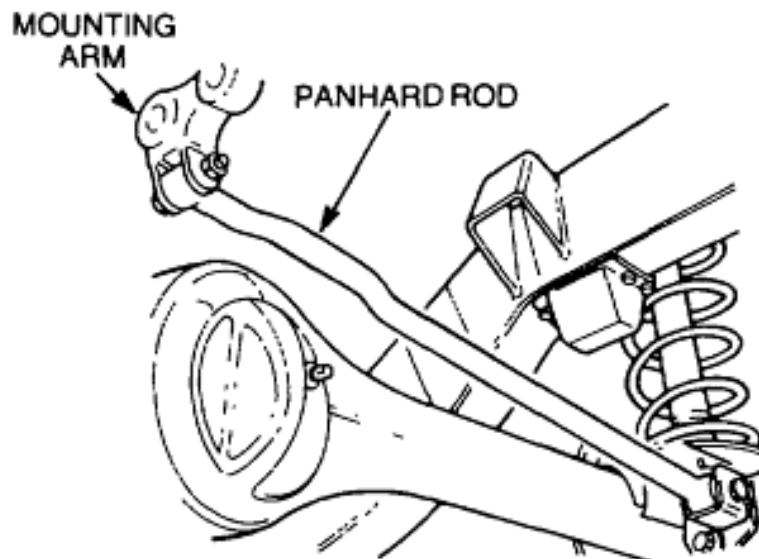

Figure 127 Panhard Rod Removal
- a. Remove the locknut and bolt securing the rod to the chassis mounting arm (Figure 127).